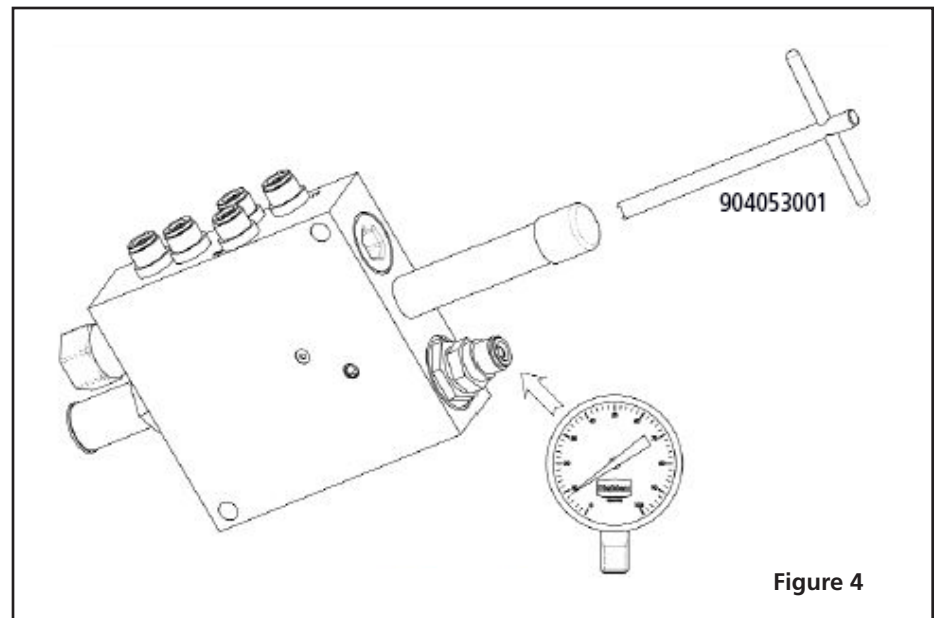
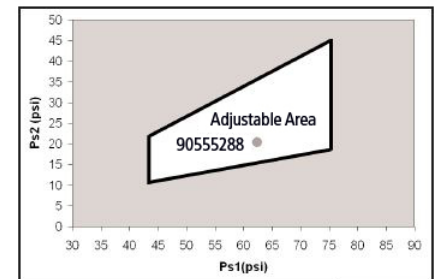

Figure 4
Figure 5
1. The ILAS III factory setting for Ps2 is approximately 20 PSI. If adjustment is necessary, remove red cap and with fingers back out white nut until face of nut is at the end of the threads. DO NOT REMOVE WHITE NUT FROM STUD! The Ps2 has a setting range of 10 PSI to 45 PSI, this is dependent on the Ps1 set point. See Figure 5 on previous page for the adjustable range of the valve.
1. The ILAS III Ps1 setting is factory set at 62 PSI. If adjustment is necessary, use the adjustment wrench shown in Figure 4. Turn in the adjustment nut (under the yellow cap) until it stops, then back nut out four turns. **DO NOT TORQUE!** Repeat Steps 1-4 of the Functional Check to verify the Ps1 setting is now above the desired new setting for Ps1. The Ps1 has a setting range of 45 PSI minimum to 75 PSI maximum. (See Figure 5 for adjustment range.)